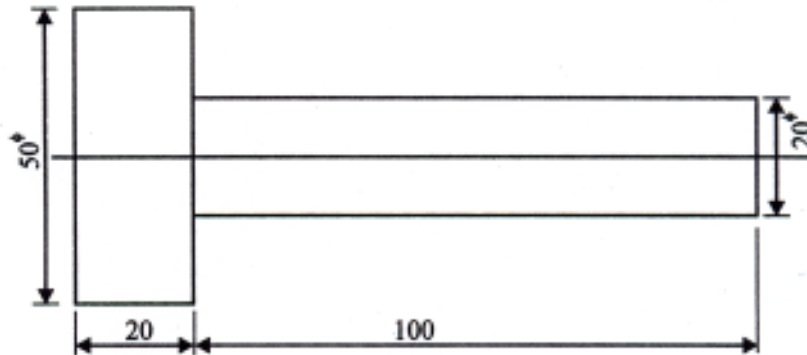

Fig. 5.8
1. a) Fig. 5.8, shows the component to be made by upsetting a ϕ 20 mm bar. 150 components per shift of 8 hrs to be produced.